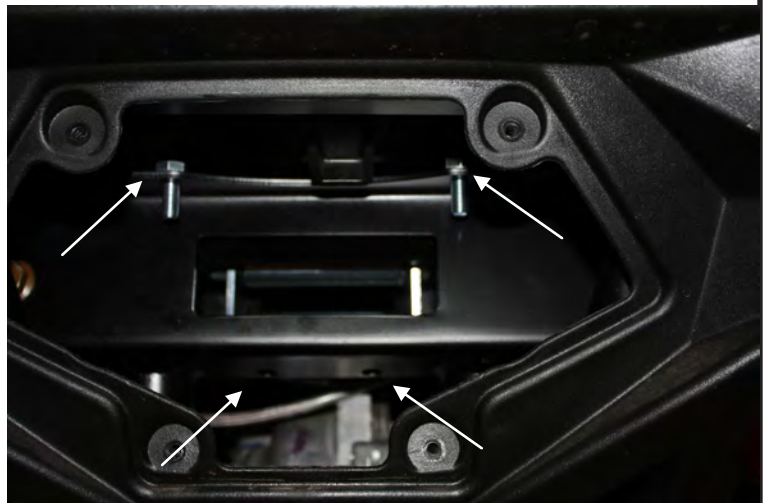

Figure 3
4. Figure 3 shows the four mounting locations required to attach the fairlead bracket, note that the top two holes just under the radiator have the bolts already installed in this photo. The lower two holes attach the bottom of the fairlead bracket and also the front of the winch mount with the frame between both. Refer to the exploded view for details.